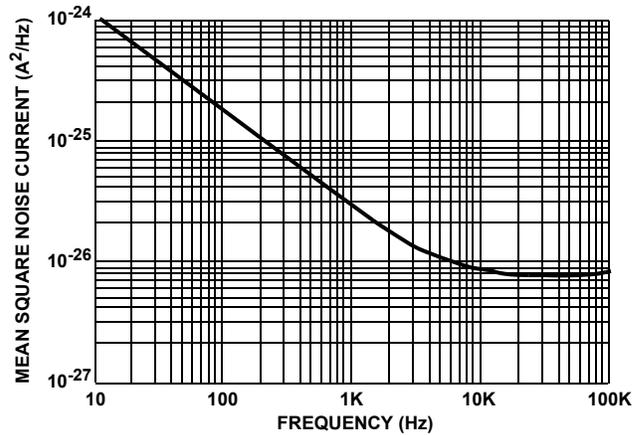

FIGURE 8. HA-4741 INPUT NOISE CURRENT
4. Obtain the value of  $4KTR_G$  from Figure 8, and enter it on line (c) of the table. This is constant for all frequencies. The  $4KTR_G$  value must be adjusted for temperatures other than normal room temperature.
Values are selected from the data sheet and Figure 8 to fill in the table as shown below. An  $R_G$  of 30kΩ was selected.